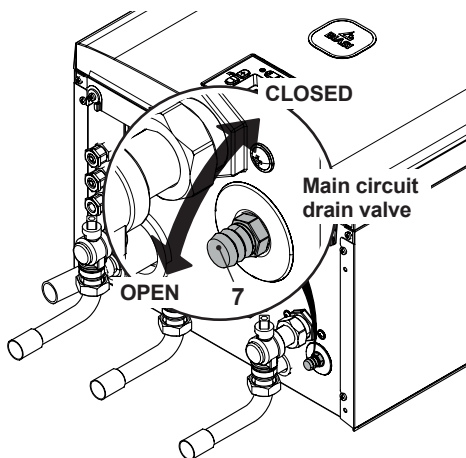

Fig. 10.8
- Loosen the central heating drain cock 7 indicated in Fig. 10.8.